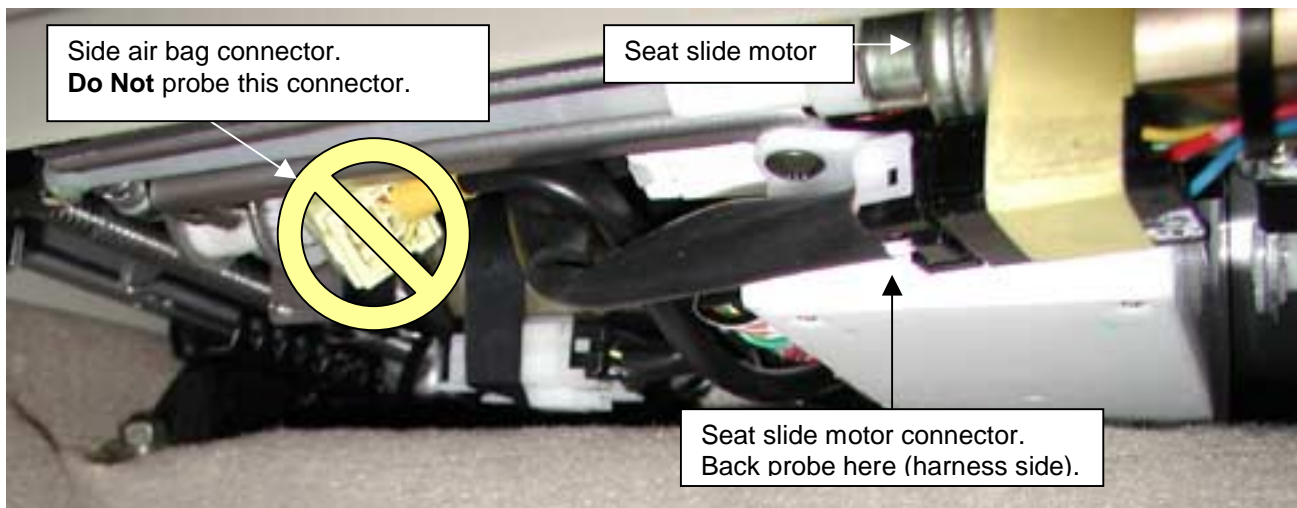
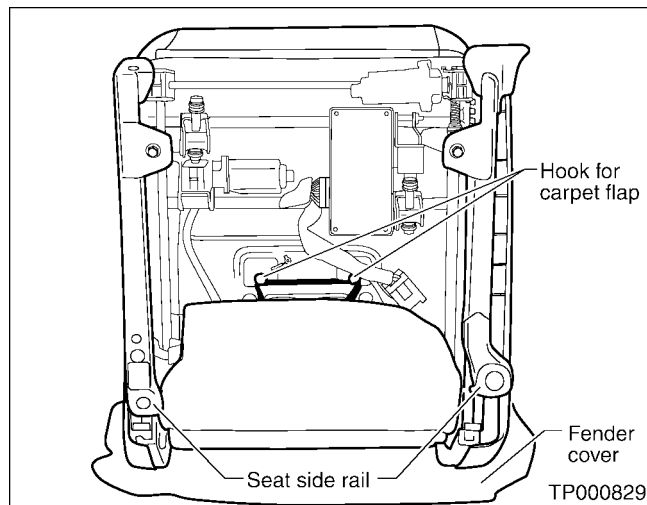

Figure 2
Figure 3
WARNING: When checking the power seat slide motor circuit, do not confuse its **black** connector with the side air bag module **yellow** connector (see figure 2).
4. Lightly tap the seat slide motor (see figure 2). Sometimes this will get the motor working again temporarily so the seat can be moved to access the seat mounting bolts.
8. **Disconnect the battery negative cable and wait three (3) minutes.** This will allow the Supplemental Restraint System (SRS), which includes the front seat side air bags, to deactivate.
11. Unhook the carpet flap from the underside of the seat bottom (see figure 3).
28. Re-hook strap to attach the carpet flap onto the bottom of the seat (refer to figure 3 on page 3, if needed).